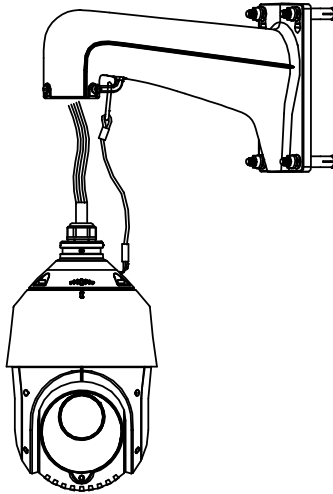

Figure 2-5 Safety Rope
- 1) Hook the two ends of the safety rope to the speed dome and the bracket respectively as shown in Figure 2-5.